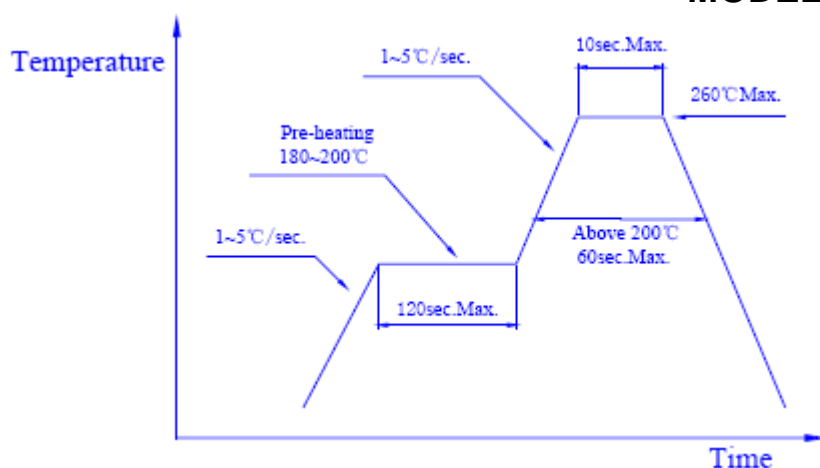

Fig.3
②Reflow soldering:
a. The temperature profile as shown in Fig.3 is recommended for soldering SMD LED by the reflow furnace.